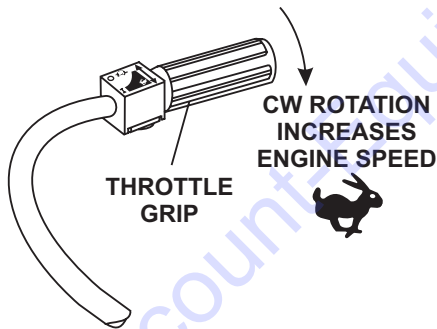

Figure 16. Throttle Grip (Rabbit/Fast)
2. Turn the throttle grip (Figure 16) CW to the **"RABBIT"** (fast) position for normal operation.